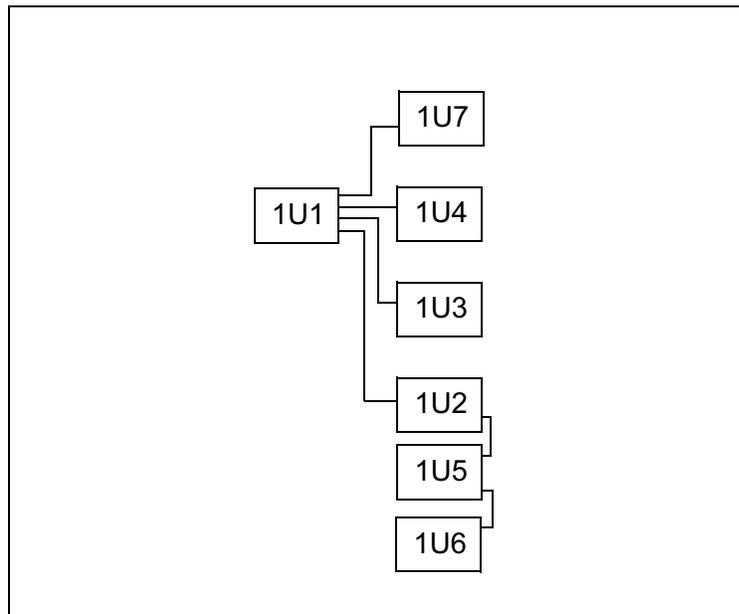

Figure 12-1 IPC Daisy Chain
3. Determine which modules are not talking. These modules must be affected by one of the previously stated problems. If the 1U1 is reporting that it cannot talk to any of the other modules. Suspect a bad 1U1. If there is a comm loss involving the 1U2, 1U5, and 1U6, suspect a wiring problem early in the daisy chain link. If only one module is not talking, suspect a loss of power. Refer to figure 12-1 for IPC daisy chain wiring.